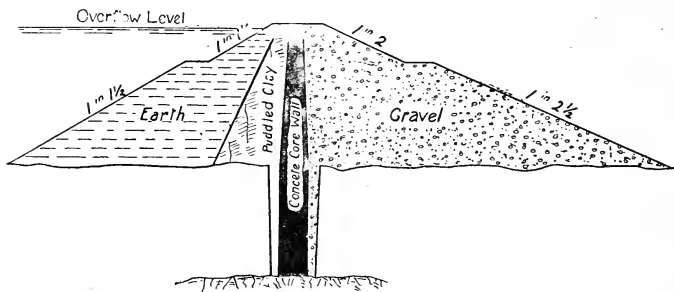

FIG. 112.—Section of earth dam with concrete core.
Large dams may be divided into two main classes—(1) earth dams; (2) masonry dams. A section of an earth dam is given in Fig. 112. It is essential that a dam, whatever its type, shall be impervious to water; and in this case the engineer puts his trust in a masonry core (marked black), which reaches downwards to rock, to which it is firmly bonded. Being